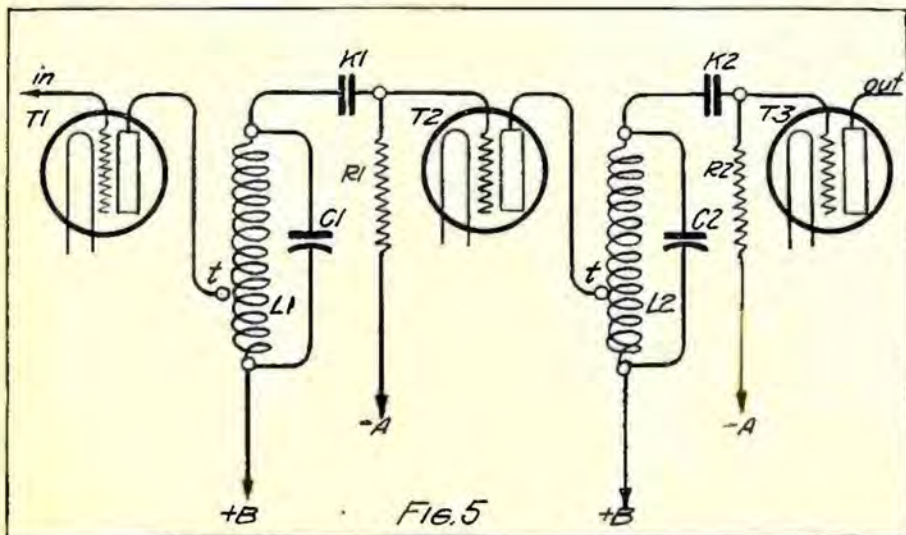

FIG. 5
In Fig. 5 we have a detail of the application of the auto-transformer to the receiving set. The output (plate current) of the first tube (T1) passes through the virtual primary (P) to the battery at (+B). The position of the tap point (t) determines the ratio of the primary to secondary turns or the